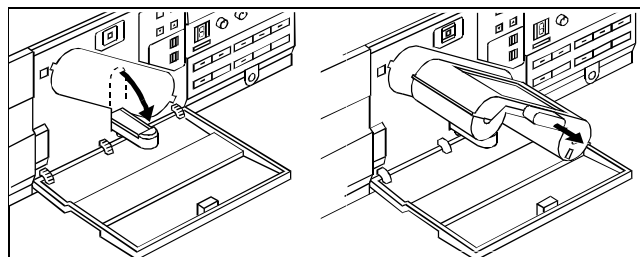

Figure 6-32. Removing the Ink Cartridge
2. Move the ink lever to the down position (Figure 6-32) and remove the ink cartridge. Be careful not to catch your fingers in the spring.